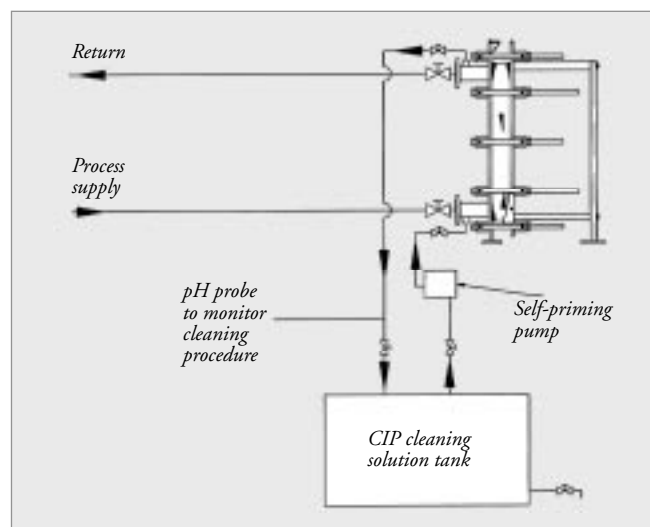

Figure 47
Cleaning-in-place is the preferred cleaning method when especially corrosive liquids are processed in a SUPERCHANGER unit. Install drain piping to avoid corrosion of the plates due to residual liquids left in the unit after an operation cycle. (See Figure 47.)
1. The pressure drop from the inlet to the outlet on one or both sides of the unit is too high compared to the original specified pressure change.	Try cleaning-in-place (CIP) as described in Figures 47 and 48. Check the accuracy of the instrumentation. Pressure taps should be installed 10 and 5 pipe diameters upstream and downstream, respectively, from flow disturbing source, i.e., elbow, valve, reducer, etc.